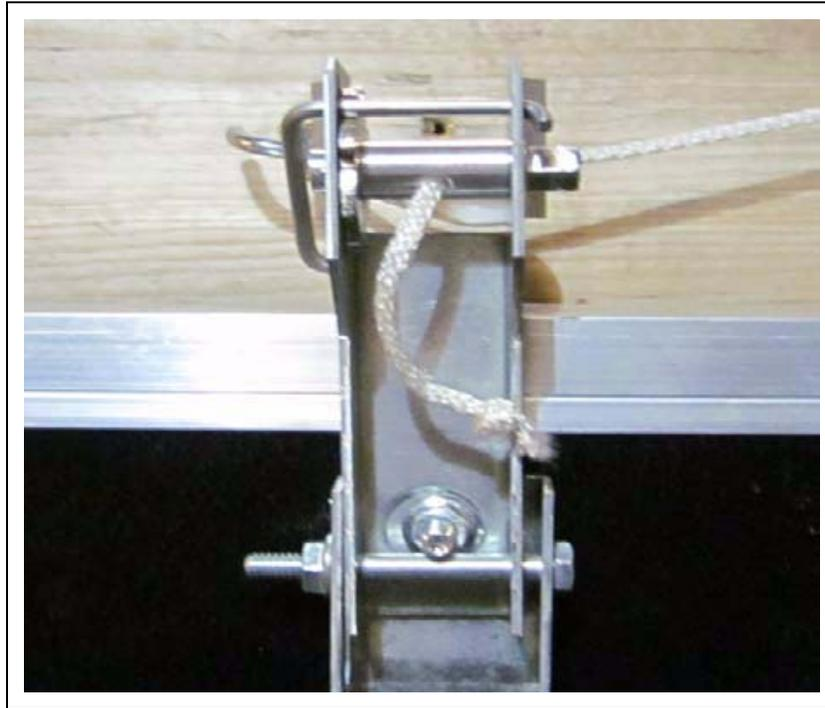

Figure 3Q
3. Thread the nylon cord through the pulley then through the hole in the winch assembly shaft. Tie a knot at the end of the nylon cord so that it will not slip back through the hole. (See Figure 3Q.)